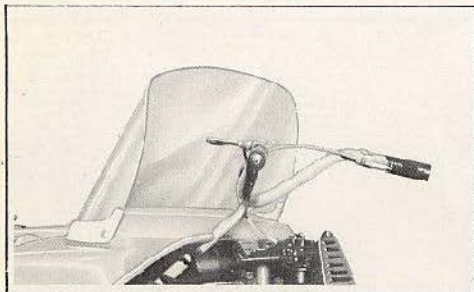

FIGURE 2
Insert five (5) Rawlnuts (rubber covered nuts) into screw holes in shroud. Assemble inner and outer frames on windshield, red identification marks on side edge of frames must appear on the left side of the windshield assembly. Position windshield on shroud and align holes. Insert center screw first, then work to sides. Figure 2.